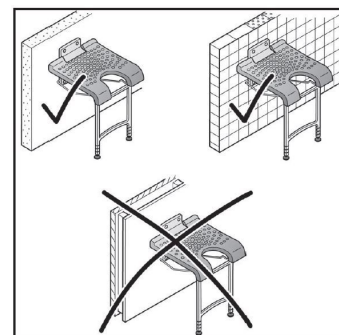

Fig. 11
- Mount only to walls that have a sufficient load-bearing capacity. (Fig. 11)